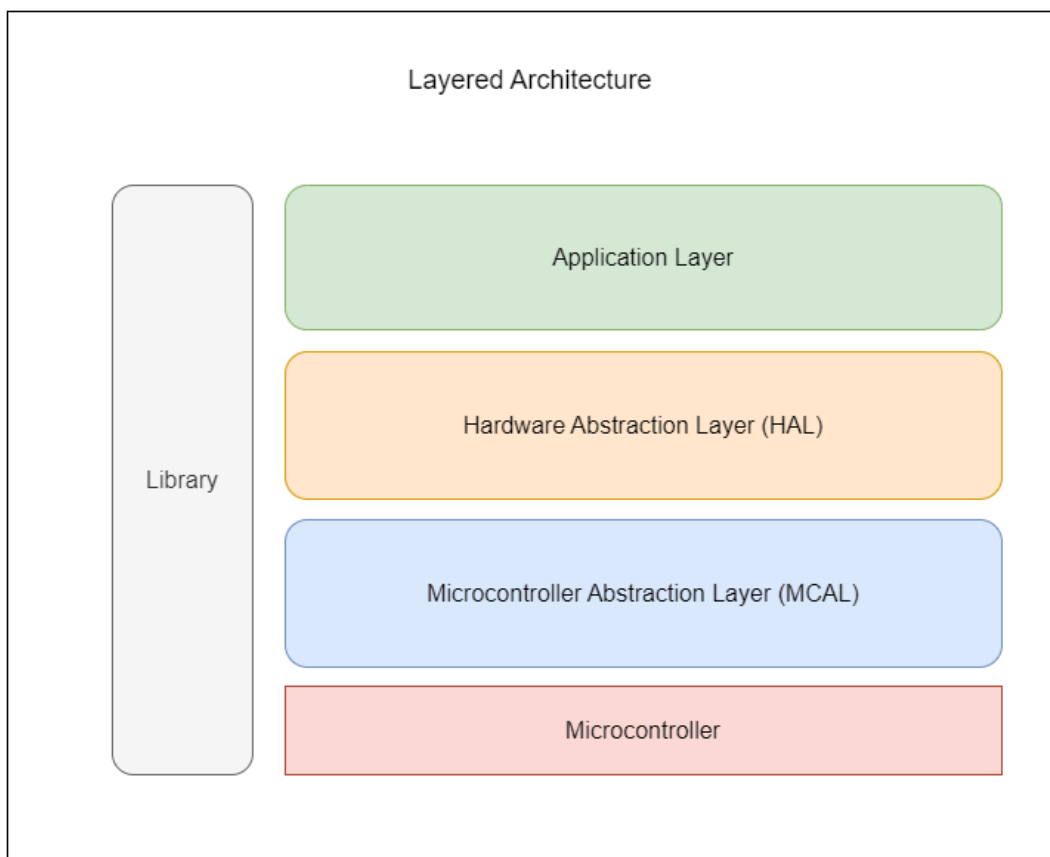

Figure 1. Layered Architecture Design
*Layered Architecture* (Figure 1) describes an architectural pattern composed of several separate horizontal layers that function together as a single unit of software.